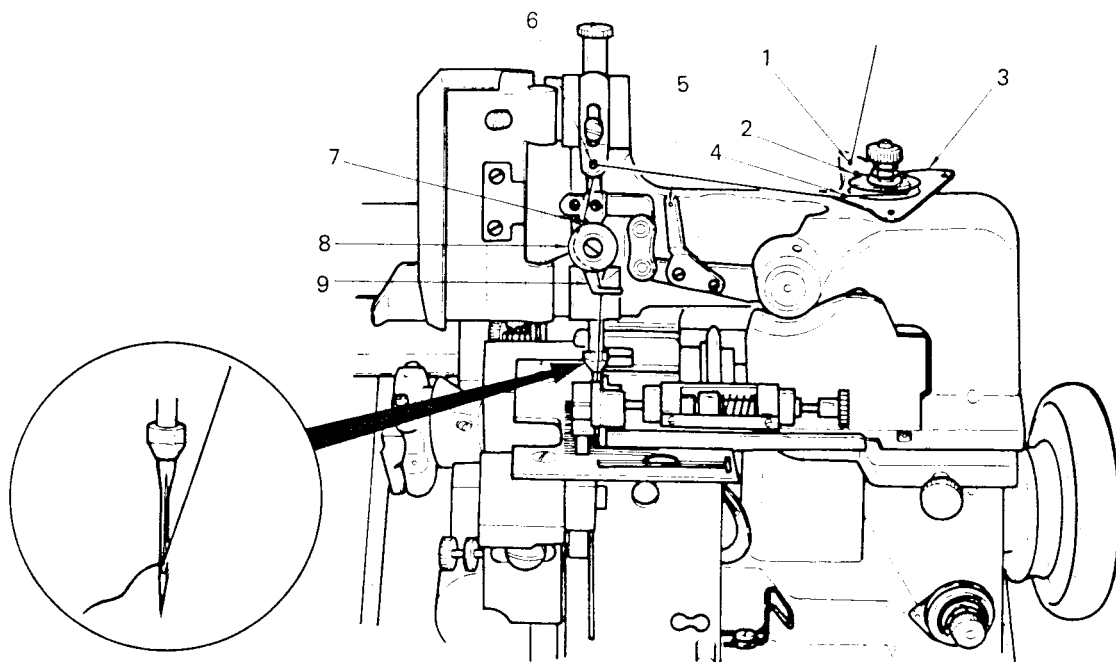

Fig. 6
8. TO THREAD THE NEEDLE (See Fig. 6)